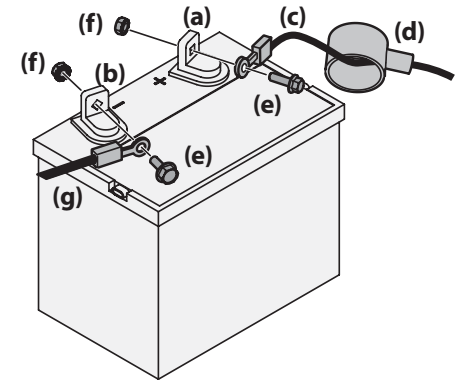

Figure 2-20
- Remove the red boot (d), if present, from the positive battery terminal (a) and attach the red cable (c), positive cable for the electric deck lift (if equipped) and positive cable for the 12V outlet (if equipped) to the positive battery terminal (a) with the bolt (e) and hex nut (f). See Figure 2-20.
- Attach the black cable (g), negative cable for the electric deck lift (if equipped) and negative cable for the 12V outlet (if equipped) to the negative battery terminal (b) with the bolt (e) and hex nut (f). See Figure 2-20.